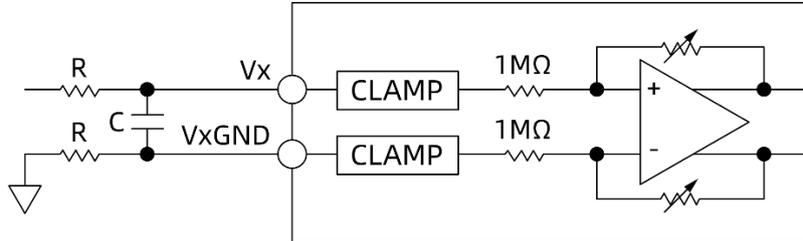

Figure 55. GD30AD3380 Analog Input
It is recommended to place a series resistor on the analog input channel to limit the current to ± 10 mA when the input voltage is greater than ± 25 V. In applications where there is a series resistor (R) on the analog input channel V_x , it is recommended that the resistor (R) be matched to the resistor on V_xGND to eliminate any offset introduced into the system, as shown in Figure 55. However, in software mode, a per-channel system offset calibration can eliminate the offset of the entire system (see the System Calibration Features section).